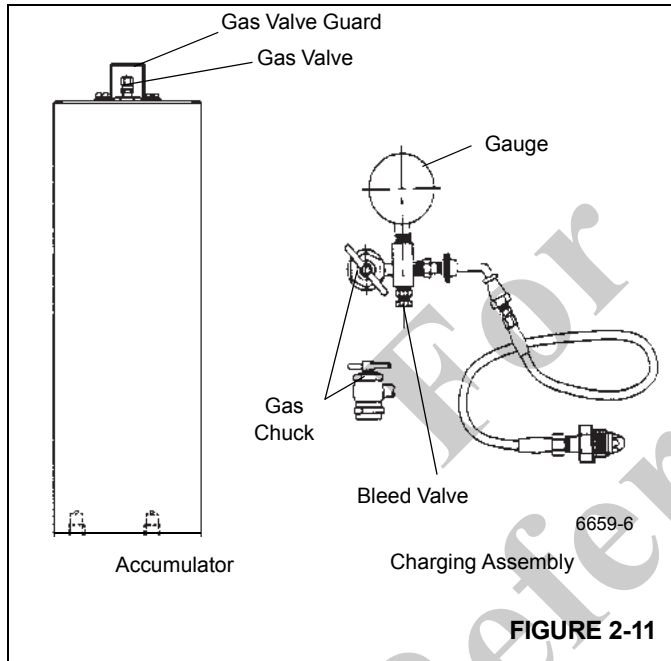

**FIGURE 2-10**
2. Install a pressure gauge at the service brake dual accumulator charge valve "A1" pressure test port (Figure 2-10).